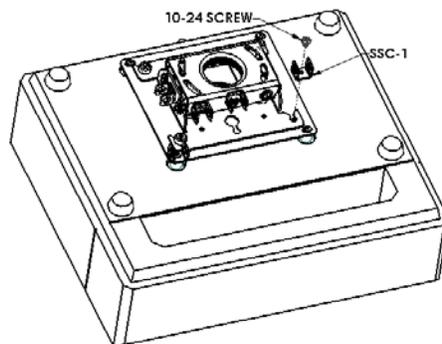

Figure 7.
- Install the final SSC-1 bracket and 10-24 x .25" screw (provided) into the hole from Step #1 (see Figure 7).